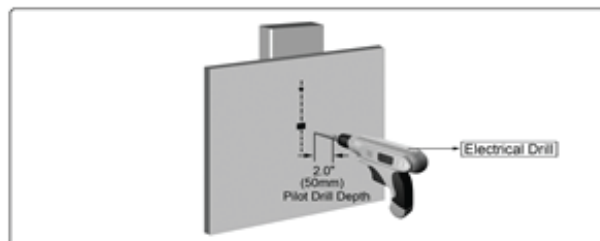

Figure 2
2. Drill Pilot Holes, ensuring the holes are in a straight pattern for a level mount. (See Figure 2)